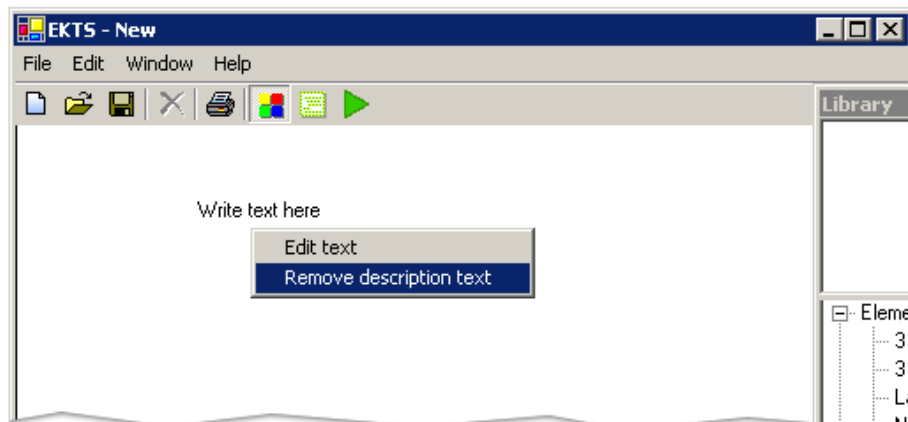

Figure 10 Remove Description Text Option.
2. From the context menu click on Remove Description Text option as shown in Figure 10.